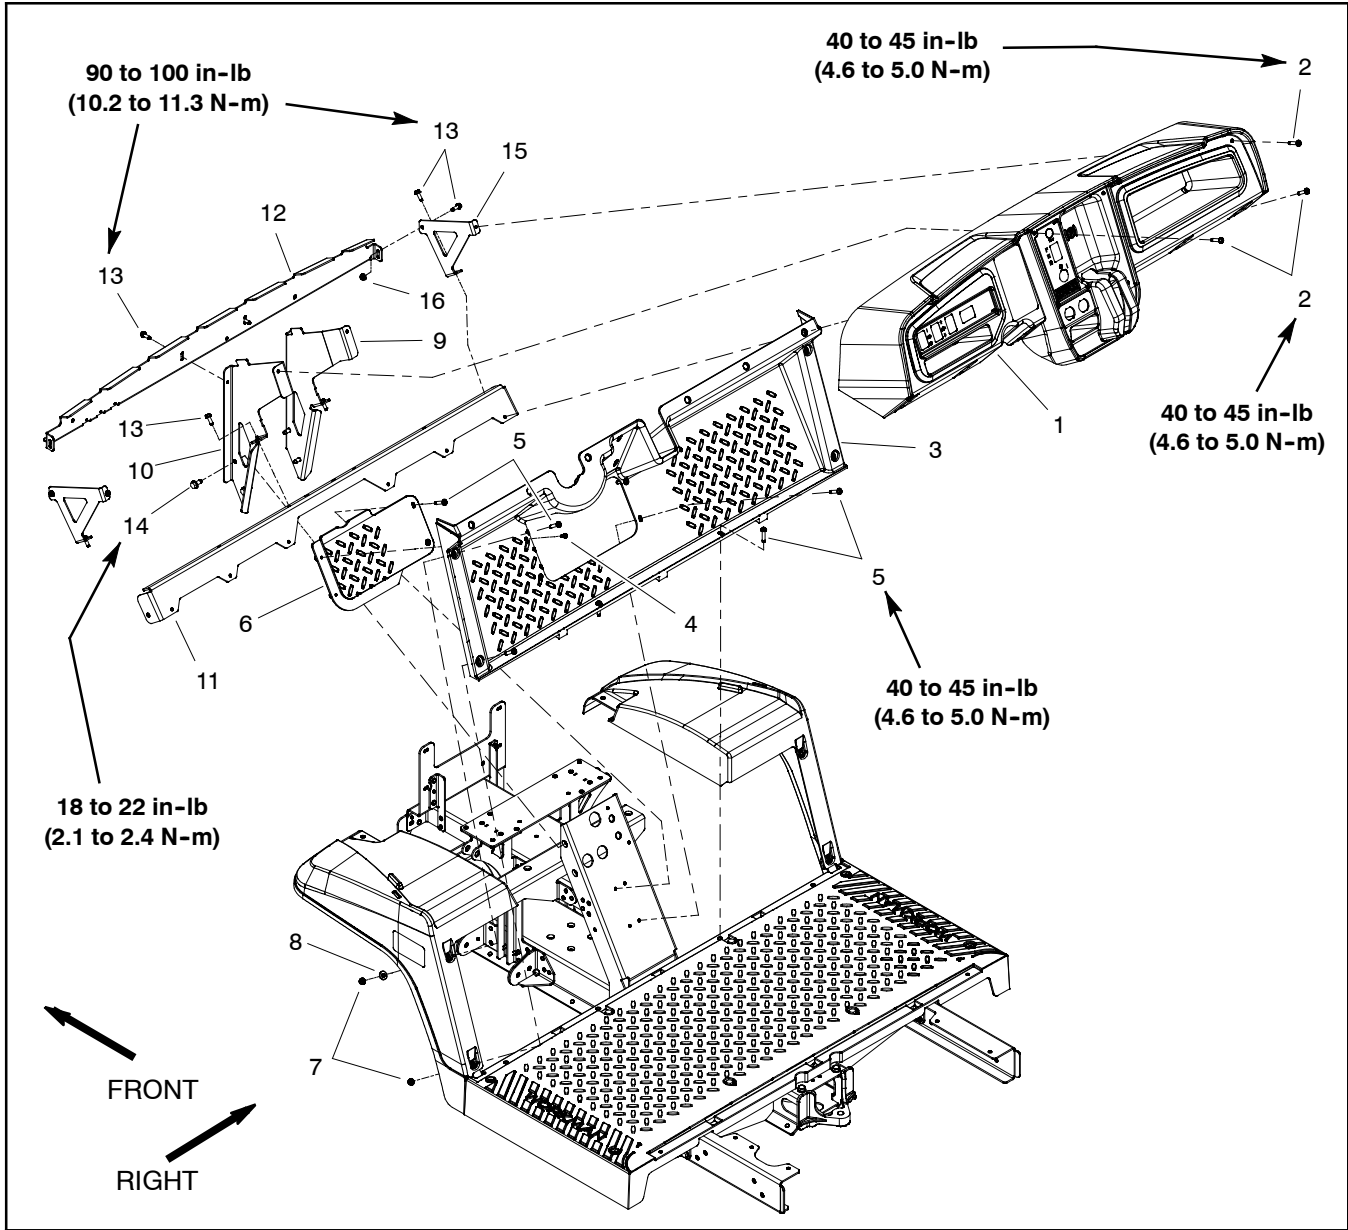

Figure 40
Removal (Fig. 40)
Installation (Fig. 40)
2. Secure dash with removed washer head screws using fastener torque specifications that are identified in Figure 40.